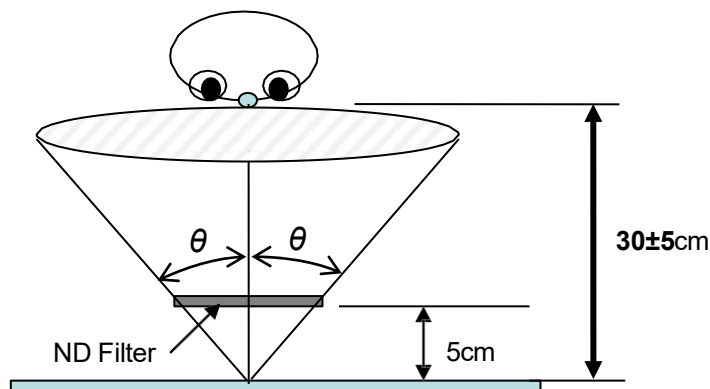

Fig. 1
- 5.3 Distance: 30±5 cm in front of LCD unit with a viewing angle of $\theta = 10^\circ$.(refer to figure 1)
ND filter use method: The inspection method of ND Filter - holding ND filter in front of the panel around 5 cm and examine the panel from 30±5 cm in the front view for 3 seconds. (Fig. 1)